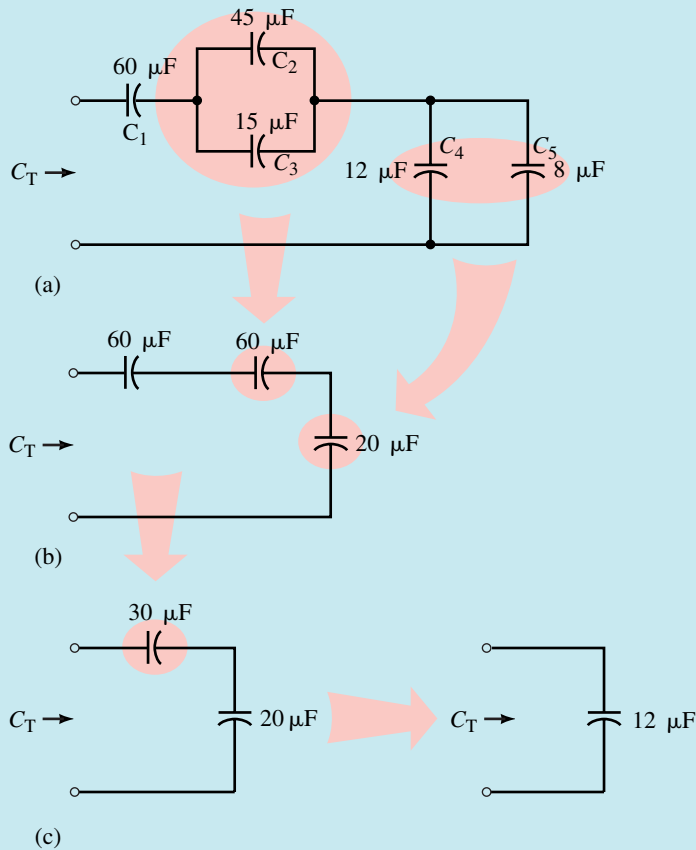

FIGURE 10-23 Systematic reduction.
EXAMPLE 10-8 For the circuit of Figure 10-23(a), determine C_T .
2. Determine the voltage across each capacitor of Figure 10-23 if the voltage across C_5 is 30 V.